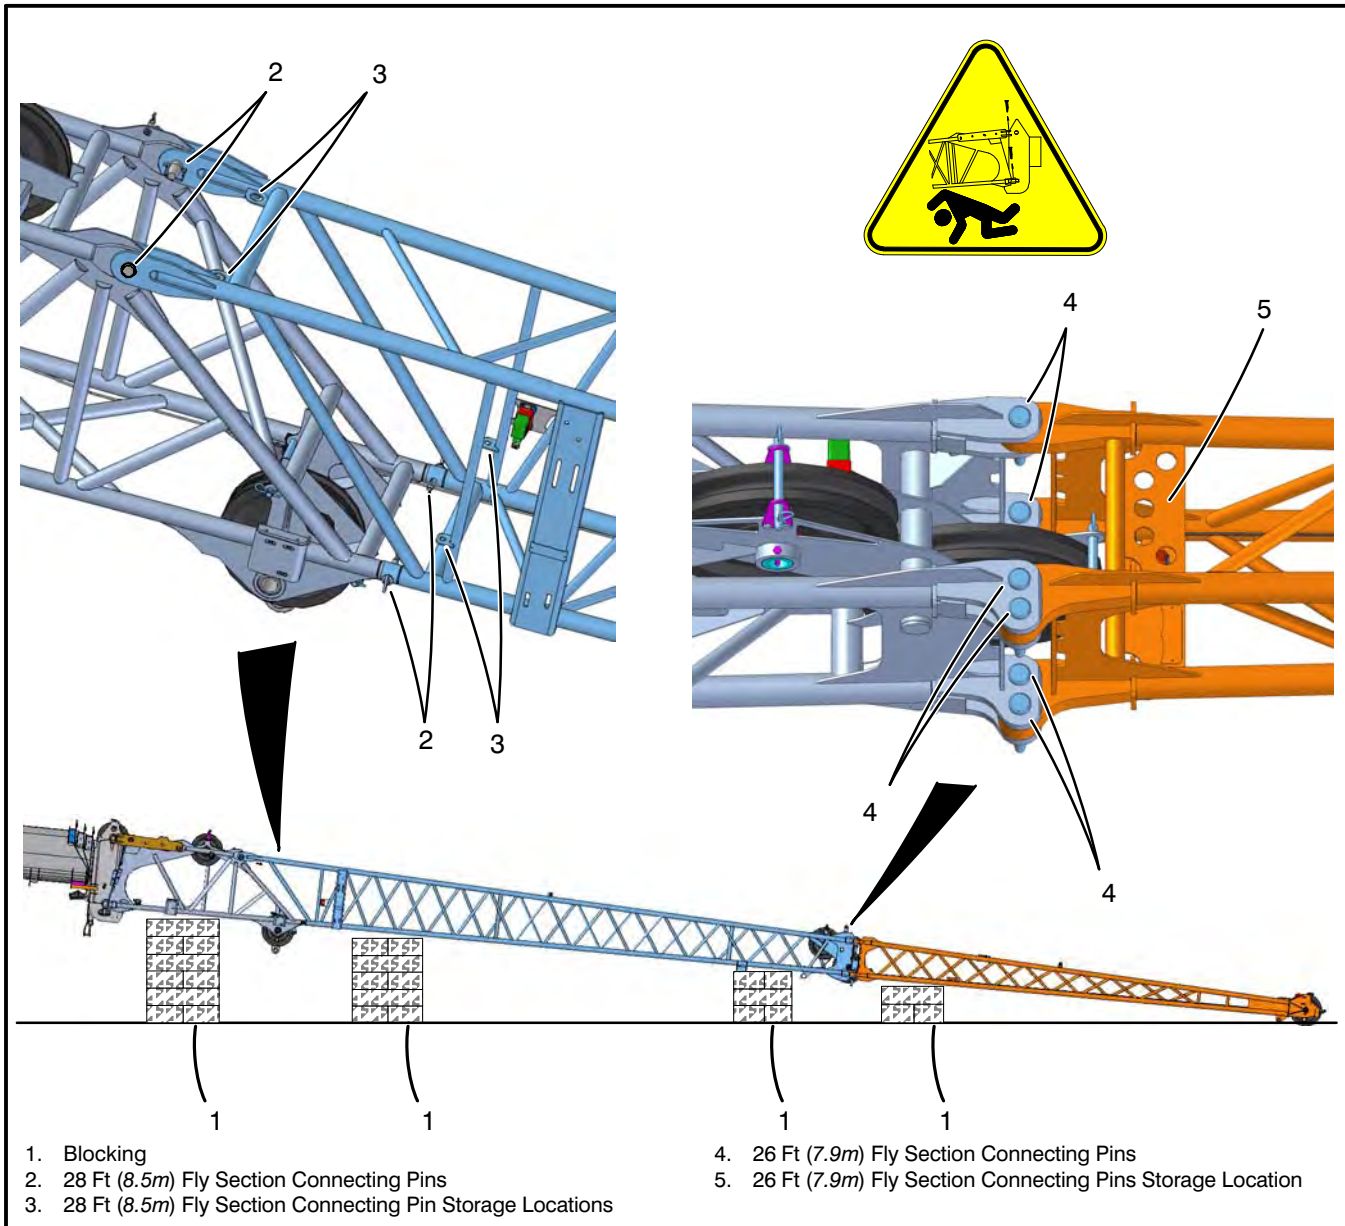

Figure 4-105
5. Pin the 10 ft (3.0m), 28 ft (8.5m), and the 26 ft (7.9m) fly sections together on secure blocking. Refer to Figure 4-105. The 10 ft (3.0m) fly section weighs approximately 1,025 lb (465kg), the 28 ft (8.5m) fly section approximately 995 lb (451kg), and the 26 ft (7.9m) fly section approximately 6742 lb (337kg).